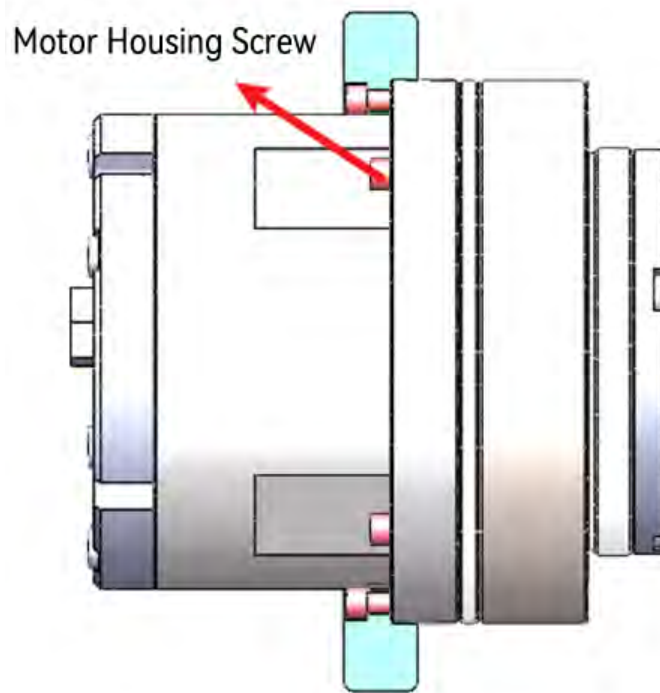

Figure 18-6 Improper Installation
- (5) The improper installation will affect the force of the joint, as shown in Figure 18-6: Since the joint is equipped with precision cross roller bearing to directly support external loads, the improper installation method does not transmit the force of the output flange to the cross roller bearing, but to the bolts that fix the motor casing.